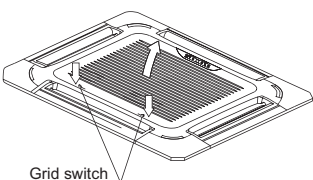

Fig.5-9
- Slide two grill switches toward the middle at the same time, and then pull them up. (Refer to fig.5-9)